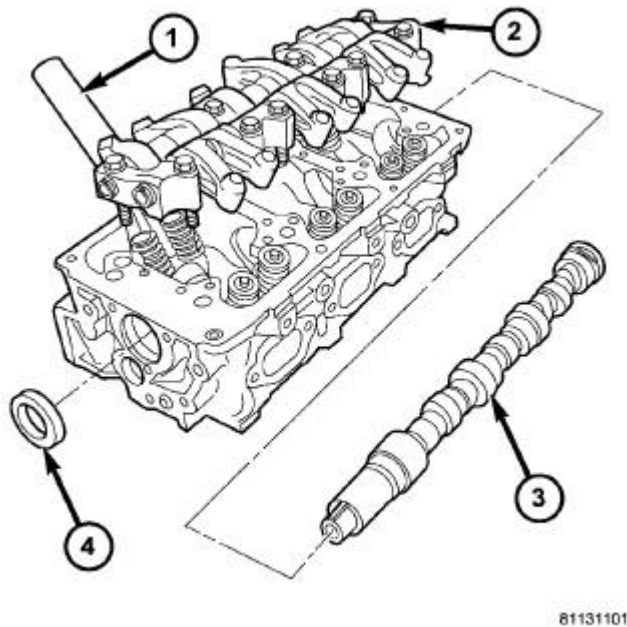

Fig. 167: Cylinder Head, Camshaft & Rocker Arm
2. Carefully remove the camshaft (3) from the rear of the cylinder head. Refer to Fig. 167.